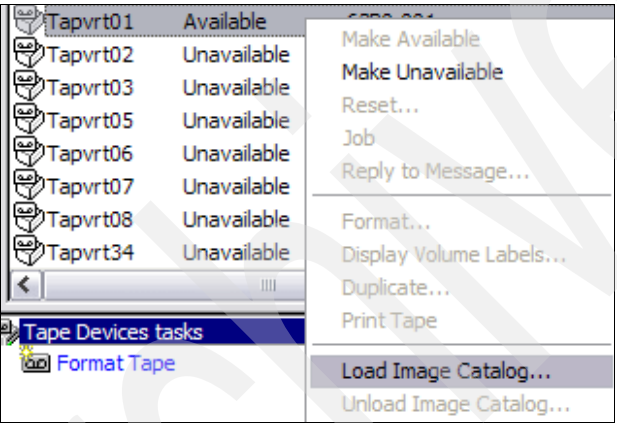

Figure 8-30 Load image catalog
2. Ensure that the image catalog is loaded, as shown in Figure 8-30.